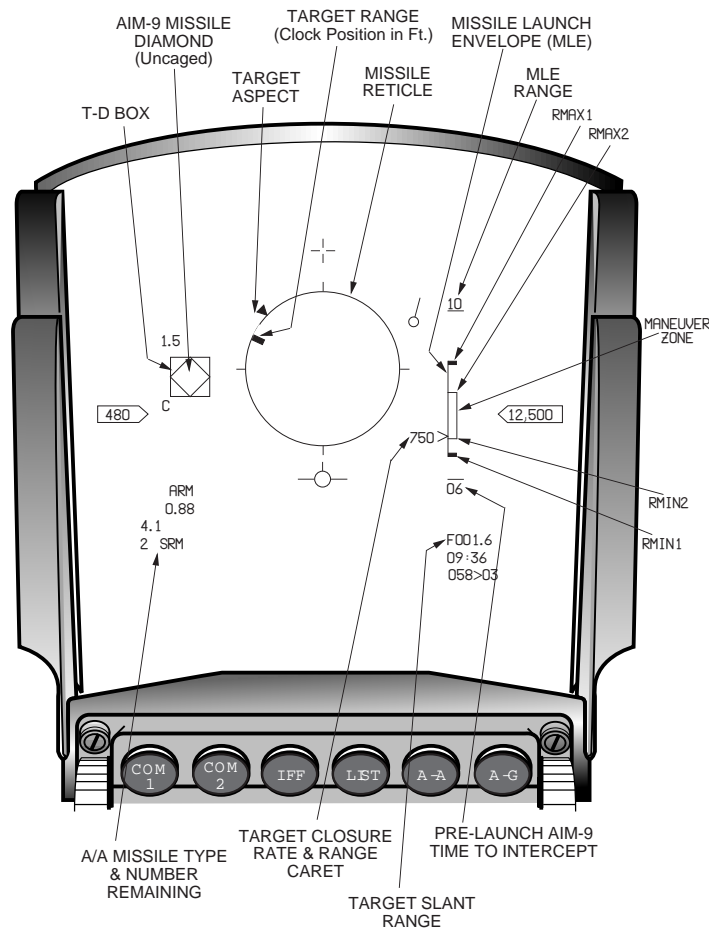

Figure 4-1 AIM-9 HUD
**AIM-9L/M HUD.** The AIM-9 HUD format provides the pilot with head-up targeting information to launch an AIM-9 missile (Figure 4-1).
- A Target Designator (TD) box shows the position of the bugged target when it is in the HUD FOV.